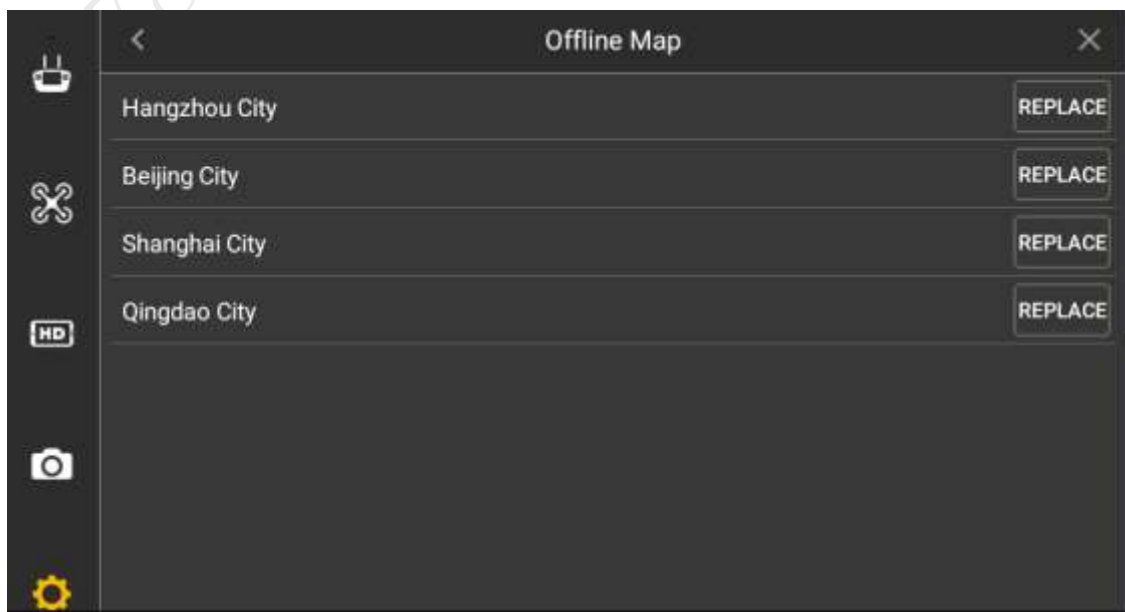

Figure 6-4
Step 2 Insert the micro SD card with offline map data package into the micro SD card slot of the remote control, so it will automatically update offline map interface and display the city list whose maps are stored in the micro SD card, as shown in Figure 6-4.